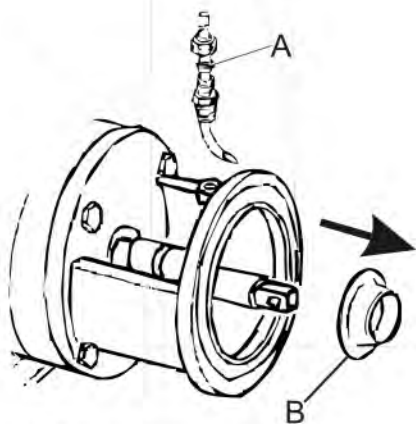

Figure 15 - Removal of Cascade System
2.13 Remove the water cascade attachment from the adapter if included. (See Figure 15 item A).
Remove the rubber shaft deflector (See Figure 15 item B) by pulling it straight off the stub shaft.